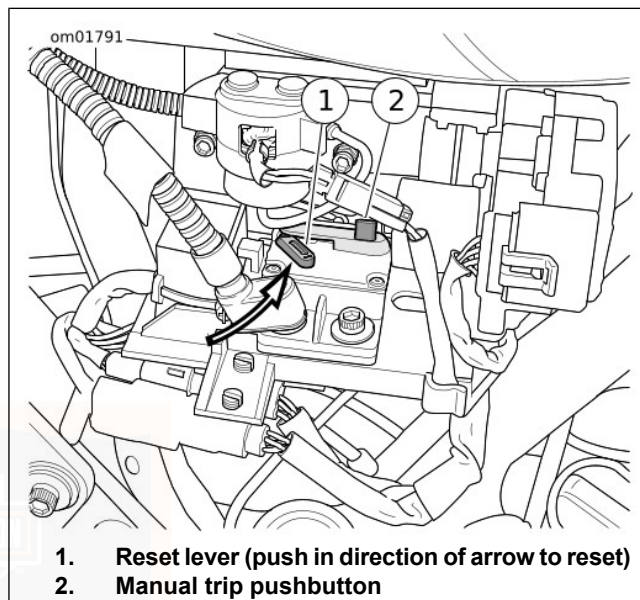

Figure 84. Reverse Motor Circuit Breaker
See Figure 84. The circuit breaker is located in the electrical caddy. This manually resettable circuit breaker has a red trip pushbutton (2) and a reset switch (1). To manually trip the circuit breaker, push down on the trip pushbutton (which causes the reset switch to extend out).